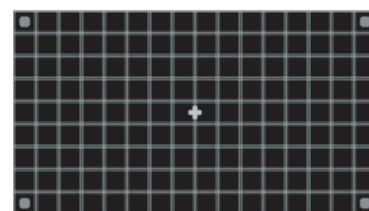

Figure 6
*Note: Figure 6 is an example of an out of focus image. Do not be concerned at this time if the image doesn't fill the screen, is not centered and/or has geometric distortion.*